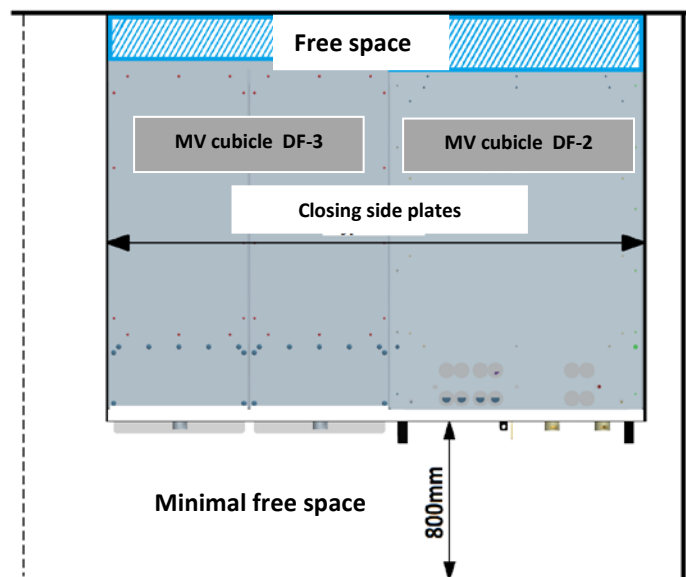

Figure 1: Top view of installed cubicles
- Between the rear of the cubicle and the wall of the installation area a free space of 150 mm is required, as shown in Figure 1. This implantation is in accordance with an installation in which the side plates of the cubicles are joining the rear wall of the installation area. As such the free space behind the cubicles is totally closed. By this, the overpressure system of the rear plates will be able to move freely in the event of an eventual internal arc.